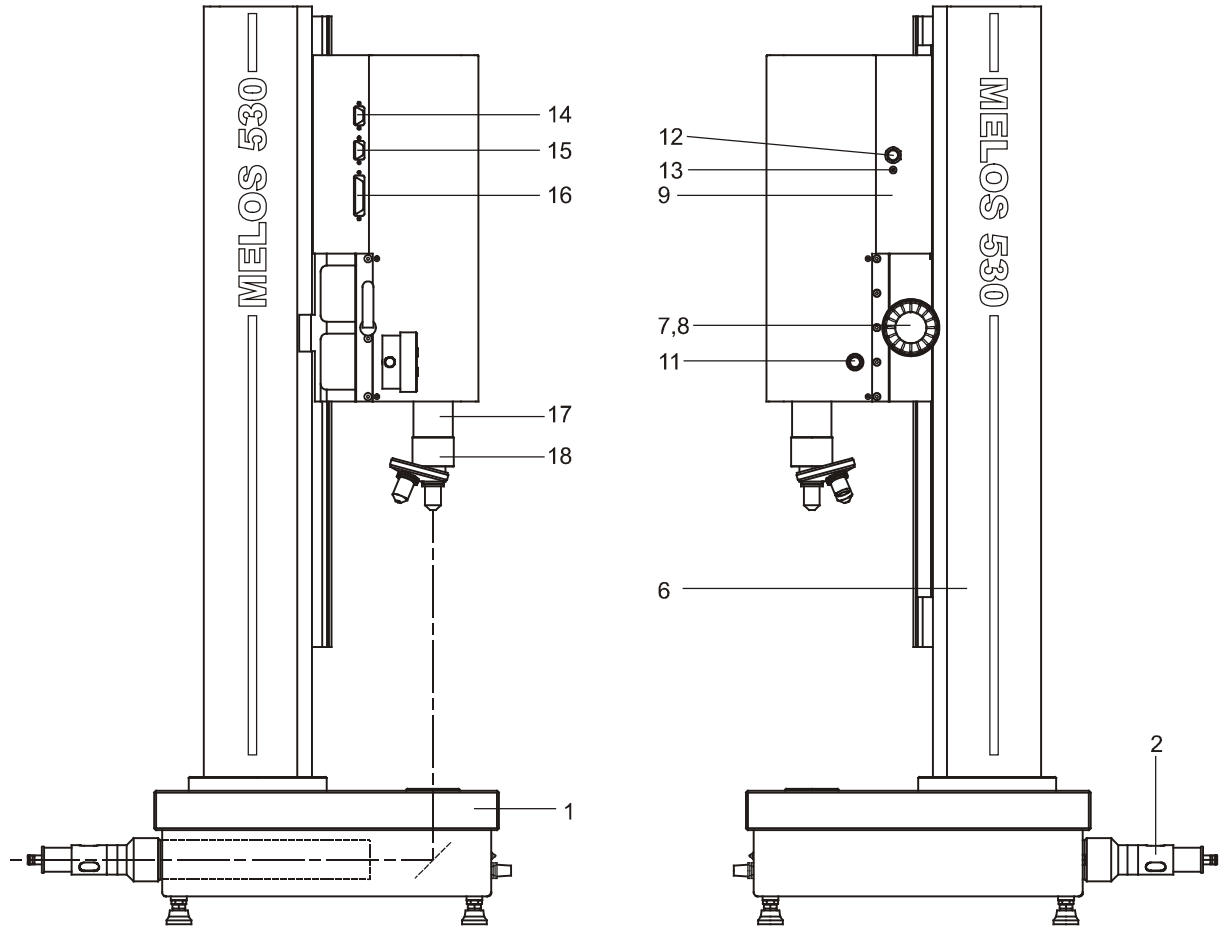

Fig. 8:
1. Connect the digital gauge with the measuring head (no. 15 in Fig. 8): insert the flat optical connector into the slit on top of the measurement gauge. The flat optical connector side of the plug with the LED must point to the front of the instrument.
3. Connect the measuring head (no. 16 in Fig. 8) with the control unit with the SubD-connector cable (SENSOR-plug in Fig. 9).
5. Connect the light conducting fibre to the cold light source and insert the illumination adapter into the collimator sleeve on the rear of the base (see Fig. 8).